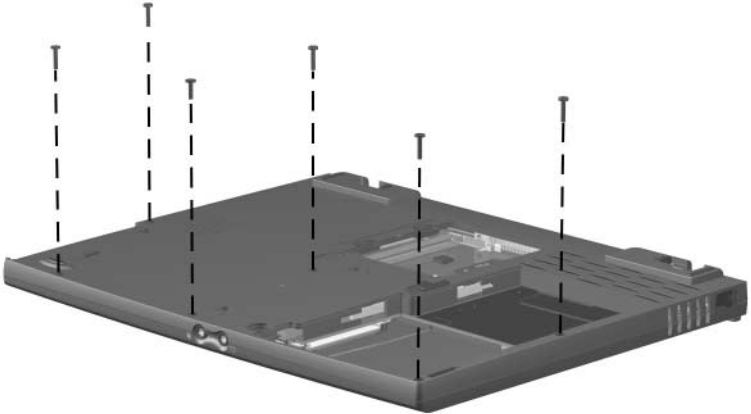

Figure 5-12. Removing the Top Cover Screws
3. Remove the six pewter TM2 × 8 screws (Figure 5-12).